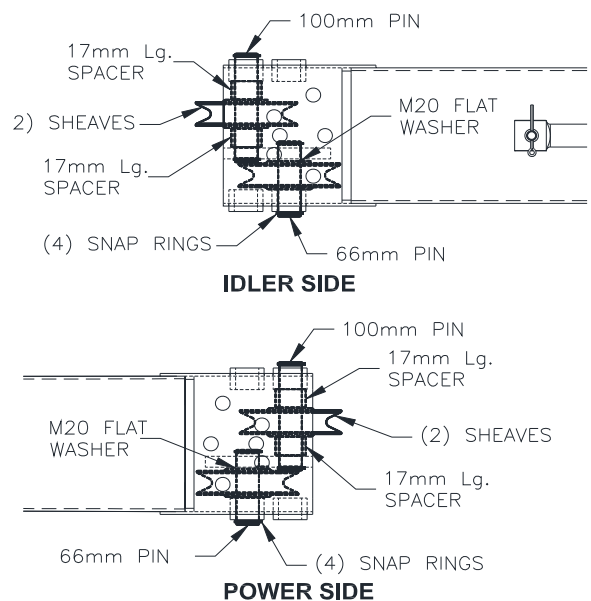

Fig 11 – Asymmetric Sheave Assembly
- 20) Disassemble sheave assemblies from each end. Assemble the cable sheaves, spacers, and pins as shown in **Fig 11** below as if viewing from **underneath the lift**. A flat washer should be placed between sheave and offset plate. **Note: The Sheave in the narrow section of the Power Side Overhead Beam should be installed after routing the sync cables.**